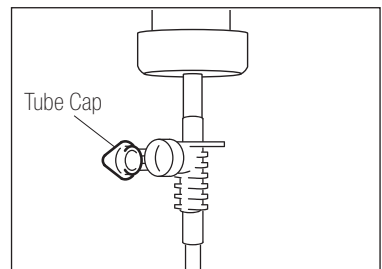

Fig.10
- 3) Open the Tube Cap to supply air into the bottle. (Fig.10)